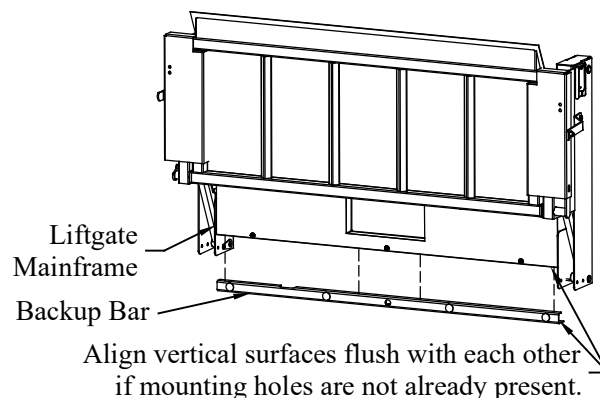

Figure 3: Attaching the Backup Bar
5. **Install** the backup bar underneath the liftgate using the supplied 1/4-20 hex bolts and nuts (Figure 3).